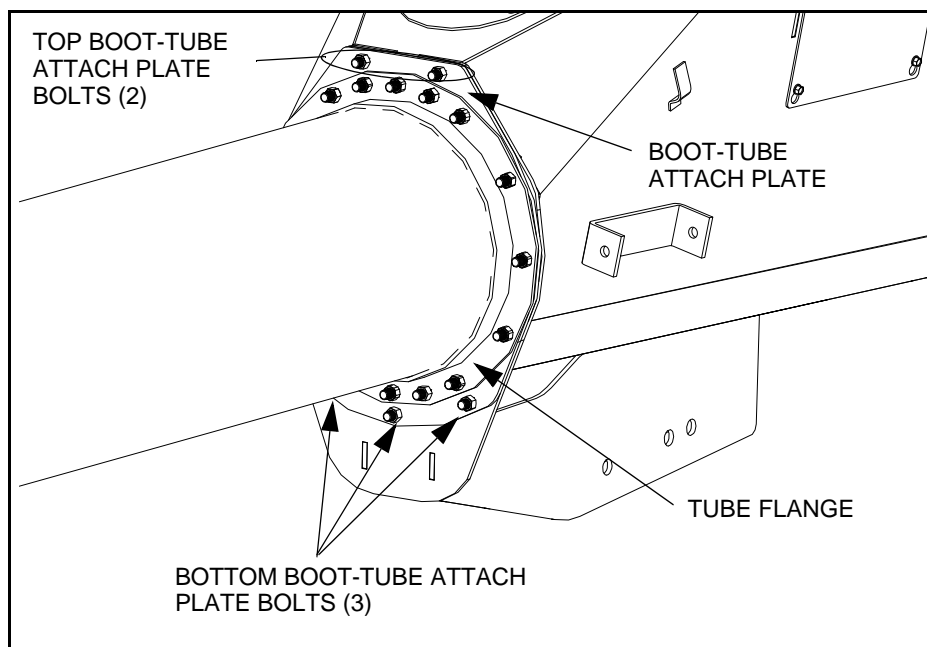

Figure 3.6 Installing the Boot on the Auger Tube
2. Slip the boot-tube attach plate over the boot flighting. Position the plate with flat edge facing up (see Figure 3.6), and fasten with five $\frac{7}{16}$ " x $1\frac{1}{4}$ " GR8 bolts inserted from the boot side of the flange and $\frac{7}{16}$ " locknuts.
3. Slip the boot assembly over the lower flighting shaft and attach it to the flange on the lower tube with 14 $\frac{7}{16}$ " x $1\frac{1}{4}$ " GR8 bolts and $\frac{7}{16}$ " locknuts (see Figure 3.6).